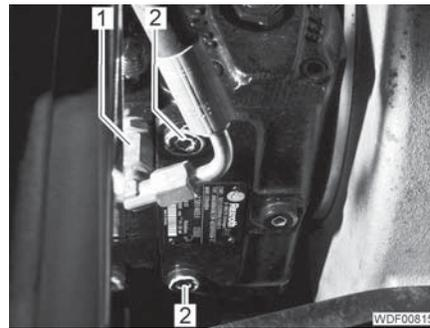

Fig. 16 Screw attachments
- Loosen the hydraulic line (Fig. 16,1), rotate it upwards and tighten it.
- Unscrew the 2 screw attachments (Fig. 16,2).